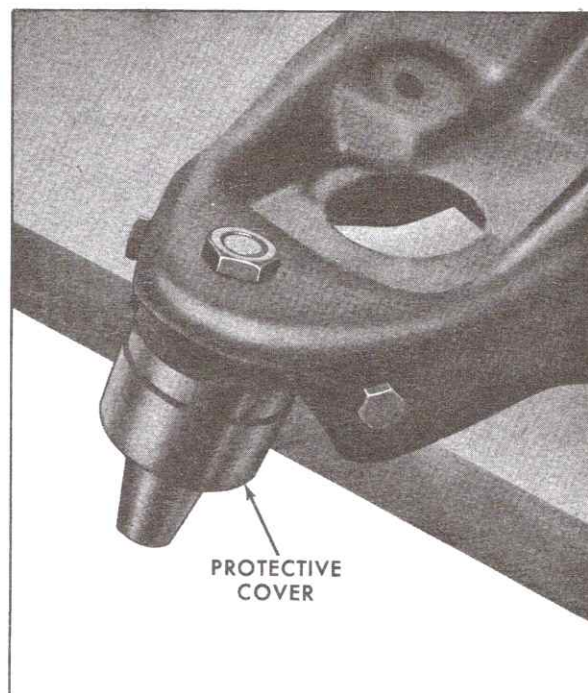

Fig. 3-42 Lower Spherical Joint Installed
1. Install service ball joint into control arm and tighten bolts and nut as shown in Fig. 3-42.